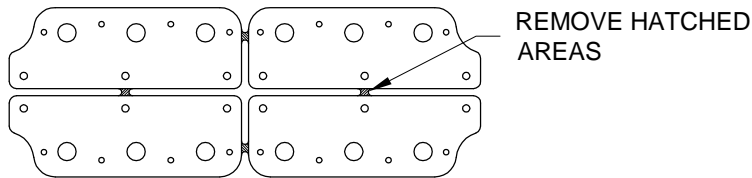

FIGURE 3: SEPARATING F-00122
Step 3: Separate F-00122 as shown in Figure 3 by removing the hatched areas.